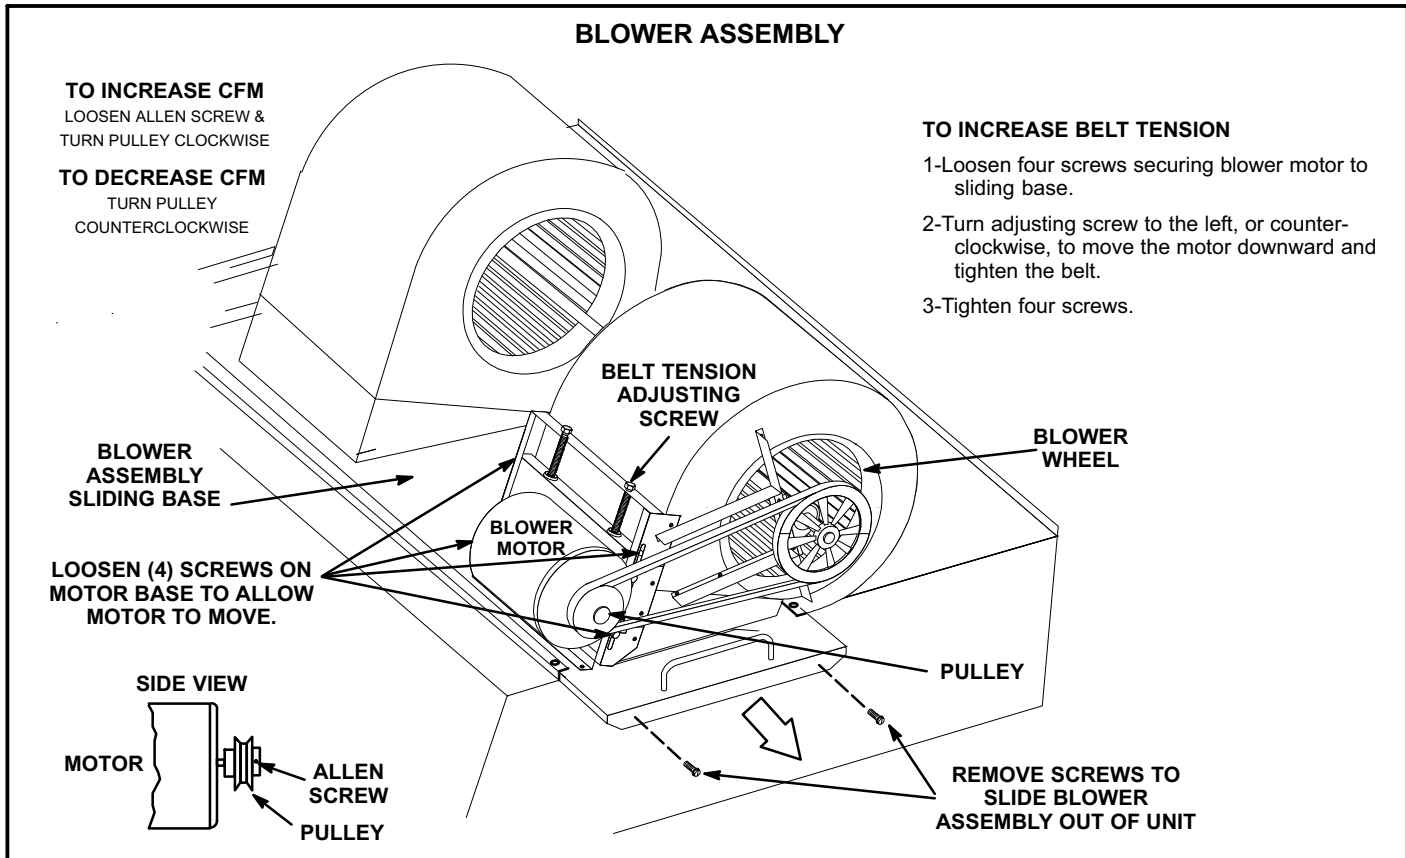

FIGURE 8
The blower compartment in KCA180/300 units is located between the evaporator coil and the compressor / control section on the opposite side of the condenser coil. The blower assembly is accessed by removing the screws on either side of the sliding base. The base pulls out as shown in figure 8.
The blower assembly is secured to a sliding base which allows the entire assembly to be pulled out of the unit. See figure 8.
- 5- The RPM can be adjusted at the motor pulley. Loosen Allen screw and turn adjustable pulley clockwise to increase RPM. Turn counterclockwise to decrease RPM. See figure 8 for KCA180/300 units.
- 1- Loosen four bolts securing motor base to mounting frame. See figure 8.